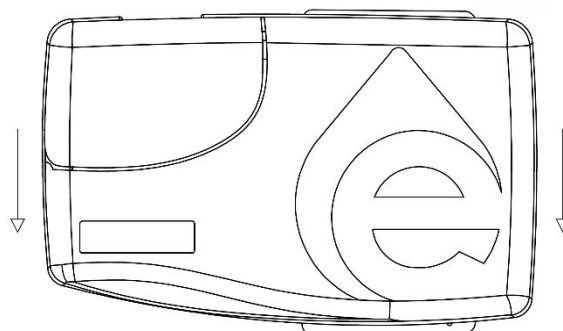

Figure 2
3. Hang the control box on the fixed bolts (Figure 2) and make sure that the power cable and cell cable also reach the Control Unit.